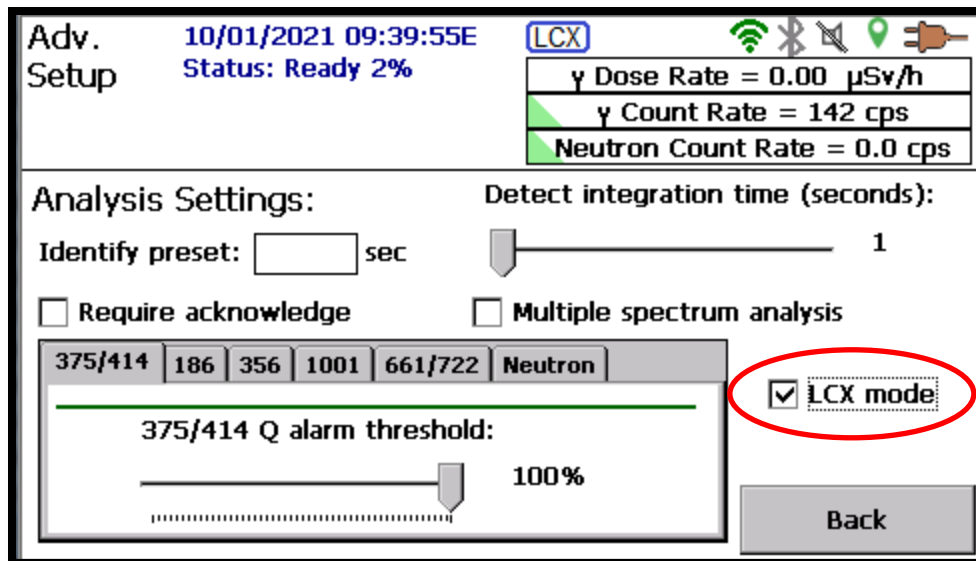

Figure 59. LCX Mode Enable/Disable Checkbox
- To enable LCX Mode, go to the Advanced Settings screen and tap the **Analysis** button. Under **Analysis Settings**, tap the **LCX mode** checkbox (Figure 59) to mark it. The LCX status indicator (**LCX**) will be displayed at the top of the screen.